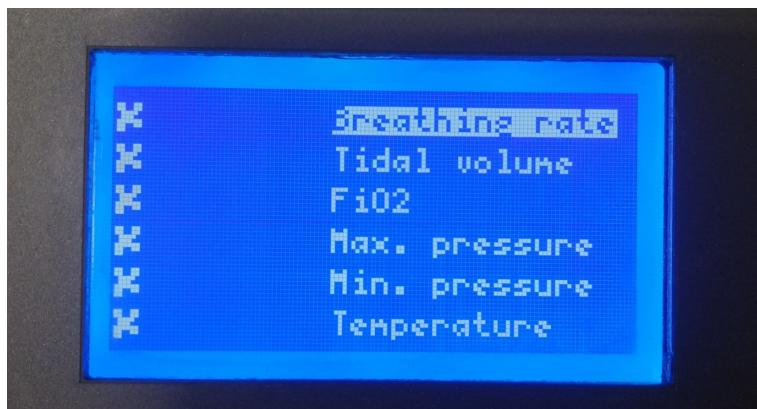

Figure 13: Displaying the thresholds that needs to be set.
2. The display shows all parameters that needs to be set with a cross before the parameter. Figure 13 shows this screen. The cross before the parameters indicates that this threshold still needs to be set.